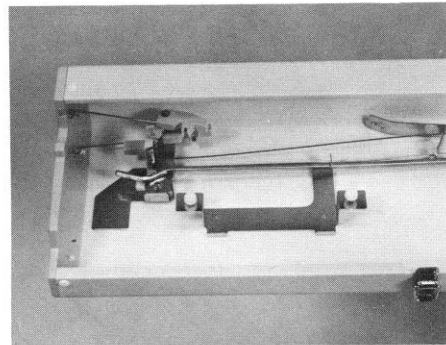

Fig.15
9. Take out the overhead feeder unit and rod from inside of the case lid. (Fig.15)